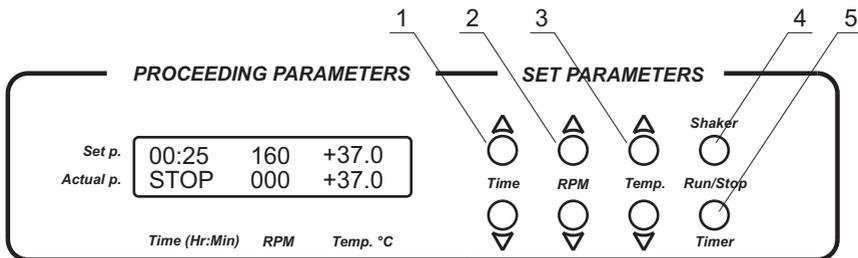

Fig.2 Control panel
- 4.3. With the help of “▲” and “▼” buttons (Fig. 2/1) set the required working time interval in hours and minutes (increment - 1 min). If the button is pressed for longer time the increment becomes bigger.
- 4.4. With the help of “▲” and “▼” buttons (Fig. 2/2) set the required shaking intensity in revolutions per minute (increment 10 RPM). If the button is pressed for longer time the increment becomes bigger.
- 4.5. With the help of “▲” and “▼” buttons (Fig. 2/3) set the necessary temperature (increment
- 4.7. Press the **Shaker-Run/Stop** button (Fig. 2/4). The platform will start rotation and the timer indicator will start counting up the time interval (with 1 min precision).
- 4.10. If required, there is a possibility to restart the timer when it is running. Press the **Timer-Run/Stop** button once (Fig. 2/5) to stop the timer. Press the **Timer-Run/Stop** button again to restart the timer.
At the end of the set time period the platform movement is stopped automatically, but the heating can be stopped only manually by reducing the temperature with the “▼” T,°C key (Fig. 2/3 - lower button) till the OFF sign appears in the upper line of the display.